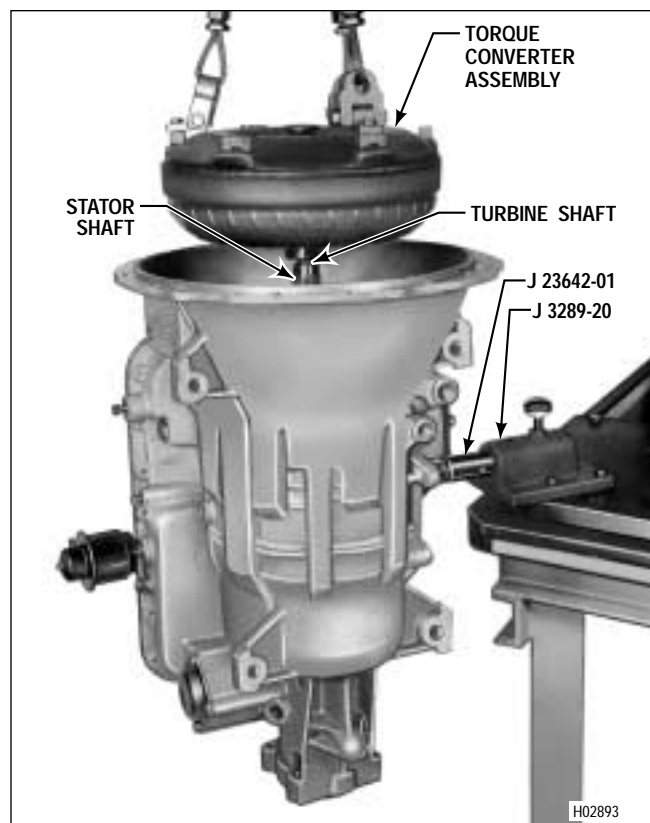

Figure 7-39. Installing Torque Converter Assembly
(1) Position the transmission housing front end upward. Install the torque converter assembly into the transmission housing (Figure 7-39). Be sure the splines on the converter turbine shaft engage the splines in the converter turbine hub, and the tangs on the converter pump hub engage the input pump drive gear. (Refer to Foldout 1, 2, or 3.)
(2) Install the torque converter retaining strap before removing the transmission from the holding fixture.
(1) Attach a sling to the transmission. Support the transmission and remove it from the holding fixture.
(2) Remove adapter J 23642-01 (Figure 7-39). Lower the transmission to a supporting surface, and remove the sling.